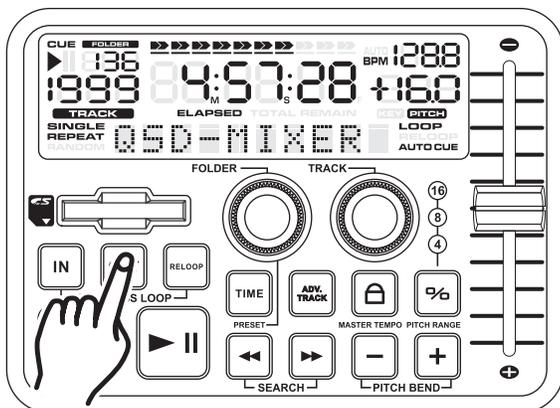

Figure 11
- 3) Press the *OUT BUTTON (35)* to set the ending point for your SEAMLESS LOOP (Figure 11). The *IN BUTTON (35)* and *OUT BUTTON (35)* LEDs will immediately begin to flash rapidly, indicating the SEAMLESS LOOP mode has been activated.